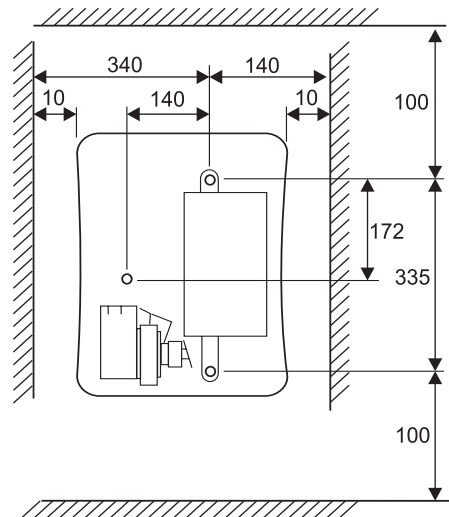

Fig. 12b
##### To fit the DBU on wall - see Fig. 12b
1. With the help of Fig. 12b, decide upon the position of the unit, taking into account the clearances required around the unit.